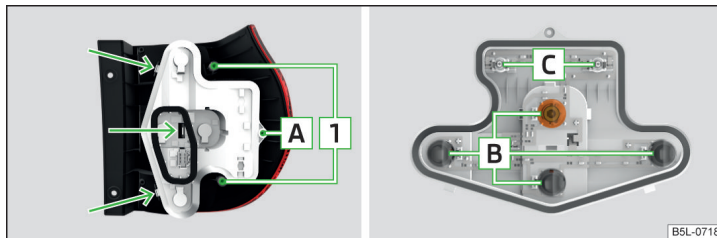
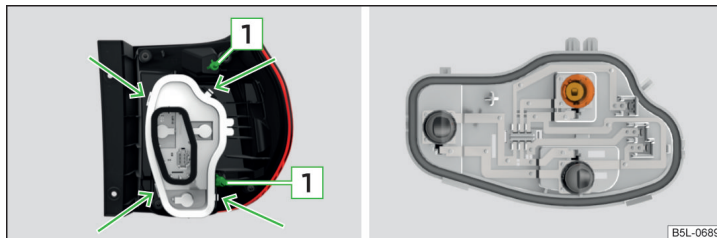

Fig. 213 Inner part of the light: Ground light
Fig. 214 Inner part of the light: Light with LED diodes
- › Carefully press the light into the body so that the bolts **1** » Fig. 213 on page 203 or » Fig. 214 on page 203 on the light engage into the mounts on the body.
- › With the spanner from the vehicle tools unscrew the securing screw **A** » Fig. 213.
- › Unlock the bulb holder using the locking latches in the areas » Fig. 213 marked with arrows and remove the bulb holder from the light.
- › Unlock the bulb holder using the locking latches in the areas » Fig. 214 marked with arrows and remove the bulb holder from the light.
- › Turn the respective light bulb » Fig. 214 until it stops **counter-clockwise** and remove it from the bulb holder.